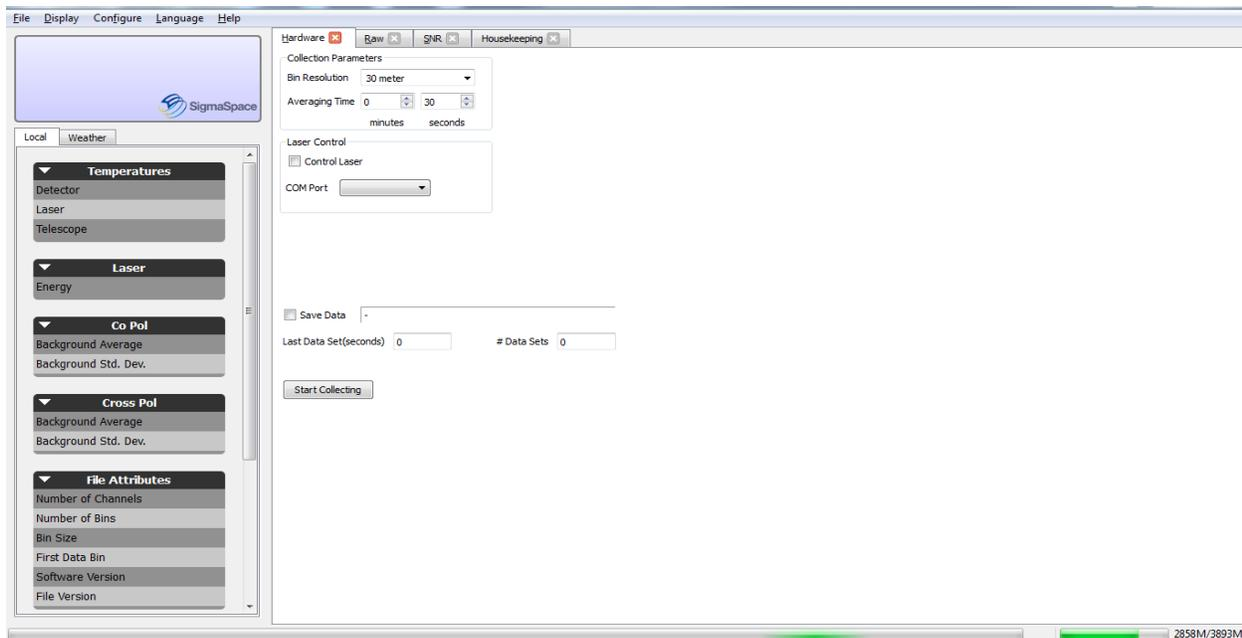

Figure 3: SigmaMPL Real Time Hardware Control Window
1. From the opening screen of *SigmaMPL*, press **Ctrl+R** or select **File→Real Time Hardware Control** (Figure 3).